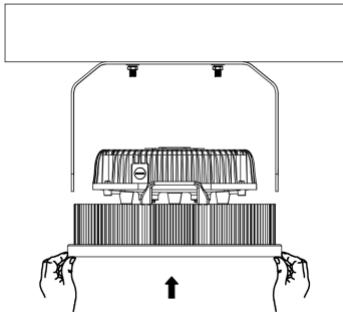
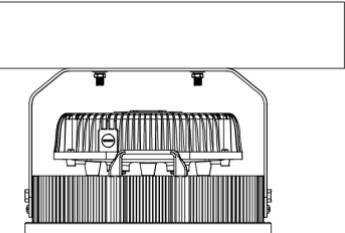

FIG.28
FIG.30
- 3) Install fixture onto the U shape bracket, adjust the angle, tighten screws with screwdriver and wrench. (See FIG.28 to FIG.30)